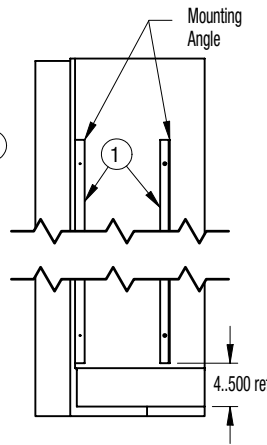

Figure 10
- 1) Remove trim cover (item 4) by putting finger in opening (see section E-E) at bottom and pulling slowly to prevent bending of trim piece. Keep close for use in final step of installation.
- 3) Locate and install 1" x 1" x .100" mounting angles to the wall in desired location. The mounting angles shall be installed perpendicular to the floor as per figure 10 and spaced apart as per dimension given in table 2. Failure to position angles upright and perpendicular to the floor will result in poor installation. Fasteners supplied by others.